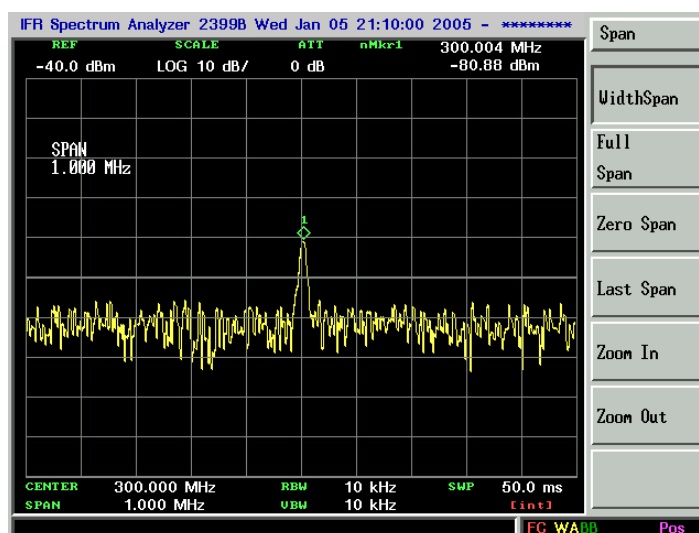

Figure 2-12. Using 0 dB Attenuation
7. Reduce the span to 1 MHz. Press **SPAN**, and then use the step-down key (▼). See Figure 2-12.